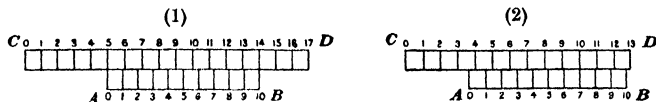

FIG 5
to be measured is placed between the jaws  $EF$ , which are so made that when they are in contact the zero of the sliding scale is opposite the zero of the fixed scale Ten divisions of the sliding scale  $AB$  are made equal to nine divisions, that is, 9 mm, on the main scale  $CD$ , hence one vernier division is equal to 0.9 mm Fig 5 (1) shows the vernier scale and the fixed scale enlarged Here the zero of the vernier is exactly opposite the 5-mm mark of the fixed scale, this being the relative position of the two scales when an object 5 mm in diameter is placed between the jaws Since one division on  $AB$  is equal to only 0.9 mm, while one division on  $CD$  is equal to a whole millimeter, it follows that the mark 1 of the sliding scale  $AB$  is 1 mm behind the mark 6 of the fixed scale, 2 on  $AB$  is 2 mm behind 7 on  $CD$ , 3 is 3 mm behind 8, 7 is 7 mm behind 12, etc Therefore, if the sliding scale were moved up so as to bring its mark 1 opposite the mark 6 on the fixed scale,
its zero mark would move up 1 mm beyond 5. If the vernier had moved up until its 5 mark were opposite 10 on *CD*, the zero mark would have moved 5 mm beyond 5, etc. In general, then, it is only necessary to observe which mark on the sliding scale *AB* is directly opposite a mark on *CD*, in order to know how many tenths of a millimeter the zero mark of *AB* has moved beyond the last division passed on *CD*. Thus the reading in Fig 5 (2) is 3.7 mm (3.7 cm), since the zero mark of the vernier has passed the 3-mm mark on the fixed scale *CD*, and the 7 mark on the vernier is directly opposite some mark of *CD*.